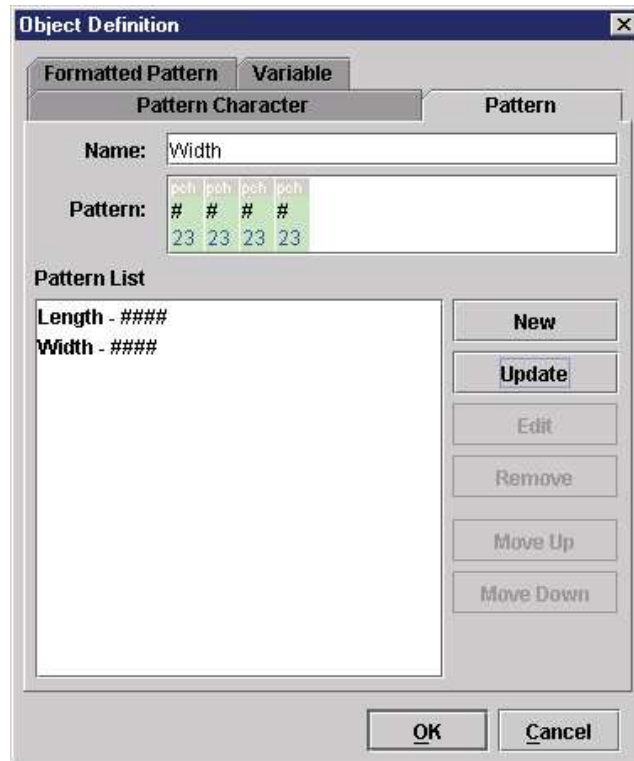

Figure 153 Defining Patterns
13. Click **Add** to add the pattern to the list. See Figure 153.